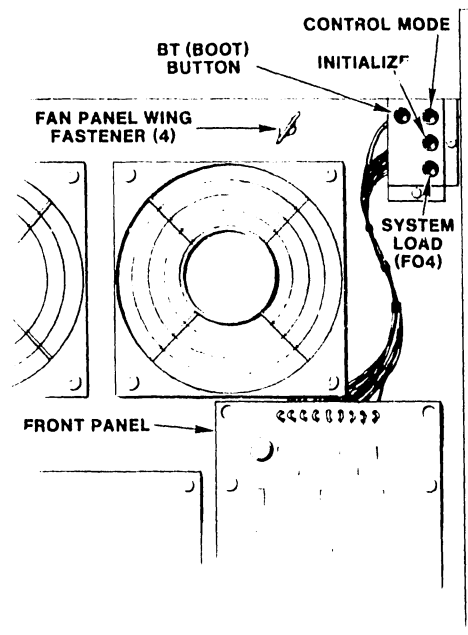

FIGURE 4-4 CONTROL PANEL SWITCHES AND INDICATORS
Located in the top right-front corner of the Mainframe, the Control Buttons allow the user to load System or diagnostic microcode, initialize the System, or force it into the Control Mode. These pushbuttons are part of the Front Panel board (210-7613) and are hardwired directly to it. The four buttons are as follows: silver BOOT (BT) pushbutton; black (or silver, depending on model) CONTROL MODE pushbutton; green LOAD pushbutton; and red INITIALIZE pushbutton. (See Figure 4-4.)
Acting as a monitor of System status, the Front Panel provides the user with pertinent information concerning the operating condition of all I/O devices connected to the Mainframe as well as data concerning the CP status. The Front Panel consists of 20 LEDs arranged in five rows of four LEDs each. The top row of LEDs provides general CP information. The remaining 16 LEDs provide status checks on data transfers between the individual peripherals attached to the VS-100 and the Central Processor. (See Figure 4-4.)